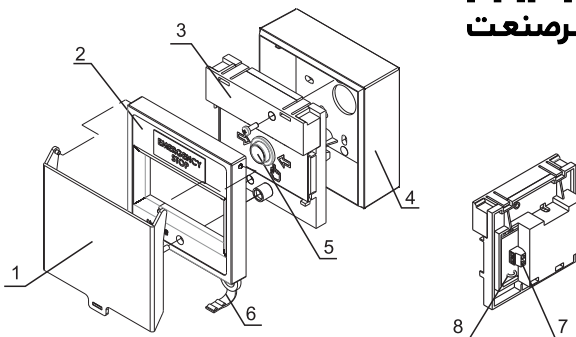

Fig.1/ Fig.1a
The button has a built-in switcher with one normally open contact and resistor of 1,5 kΩ. When pressing the button, the contact is closed and commutates circuit through resistor of 1,5 kΩ. FD3050 G consists of : surface mounting back box (pos.4, fig.1), a carrier unit (pos.3, fig.1), a glass element with protective sticker (pos.5, fig.1), a test key (pos.6, fig.1), a breakable seal (pos.7, fig.1), a cover (pos.2, fig.1) and a protective cover (pos.1, fig.1).